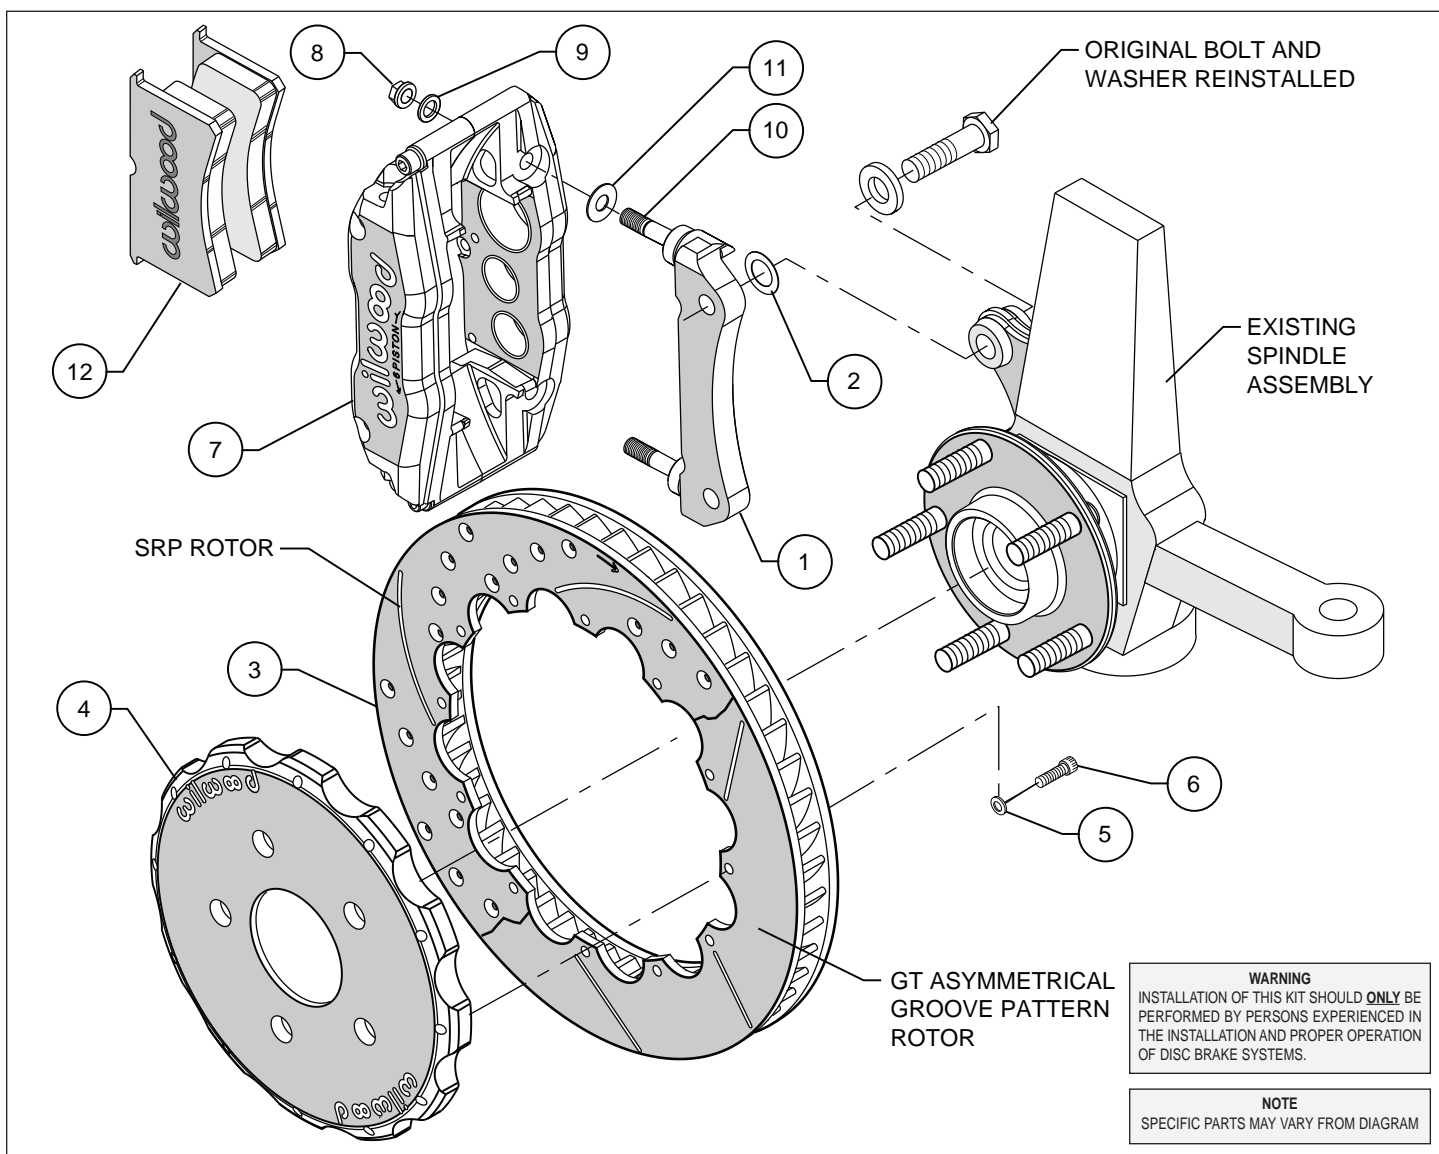
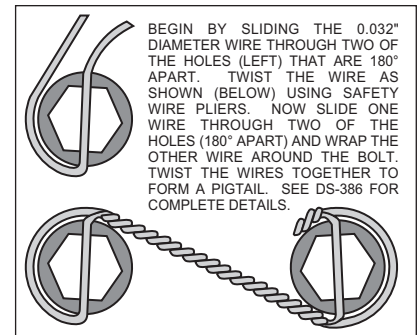

Figure 1. Typical Installation Configuration
Figure 3. Safety Wire Diagram
- Assemble the rotor (3) to the hat (4) with the bolts (6) and washers (5) as indicated in the configuration pictured in Figure 1. Be sure all bolts thread in smoothly and are snug. Then, torque all bolts in an alternating sequence to 85 **in-lbs**. The rotor mounting bolts (6) must be lockwired using standard 0.032 inch diameter stainless steel safety wire as shown in Figure 3. Please refer to Wilwood's data sheet DS-386 (available at www.wilwood.org/ds386.pdf) for complete safety wire installation instructions.
- **NOTE:** Please reference the caution statement at the beginning of the assembly instructions. Install one shim (11) over each stud (10) on the radial mount bracket (1). Slide the caliper (7) in place over the studs and rotors and install the washer (9) and lock nut (8) to hold the caliper in place. The caliper bleed screws should be pointing up. Snug the lock nuts (8) and check that the rotor (3) is centered in the caliper (7). Add or subtract .035" shims (2) as necessary between the mount bracket and the spindle to center the caliper.
- Remove the caliper center bridge pad retainer bolt, nut, and tube from the caliper. Slide the brake pads (12) into place. They should install easily without interference. Check that the outside radius of the brake pad is aligned with the outside diameter radius of the rotor face. Add or subtract shims (11) between the caliper and mount bracket to gain the proper alignment. Reinstall the center bridge pad retainer tube, bolt, and lock nut. The locknut should be snug without play in the bolt or tube. Be cautious not to over tighten.
- Once all clearances have been checked, remove the wheel, caliper, hat, and rotor from the spindle and hub. Secure the caliper mounting bracket (1) to the spindle using red *Loctite*® 271. Torque the bolts to 65 ft-lbs. Reinstall the hat and rotor assembly and again use several lug nuts to hold it in place. Lubricate caliper mounting studs and nuts with lightweight oil, reinstall the caliper, torque the caliper nuts (8) to 30-35 ft-lbs.